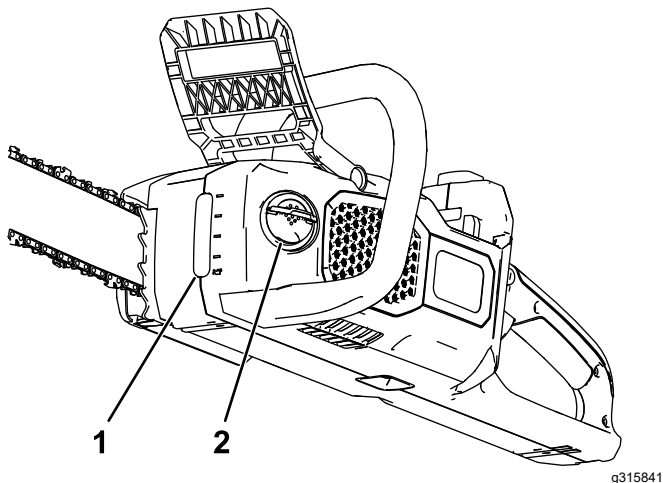

Figure 24
2. Check the oil level in the window. If the oil does not fill the window, add bar and chain oil as needed (Figure 24).
4. Clean the area around the oil cap (Figure 24).
5. Unfold the wing-nut tab on the oil cap tab, remove the cap, and pour bar and chain oil into the chain saw until the oil fills the tank (Figure 24).